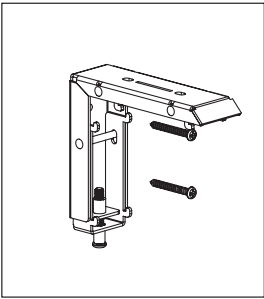

Fig. 2
- 1. Mounting on wooden structures:** Screw the enclosed 5x40 mm screws through the holes in the brackets as shown in Figs. 2 and 3.